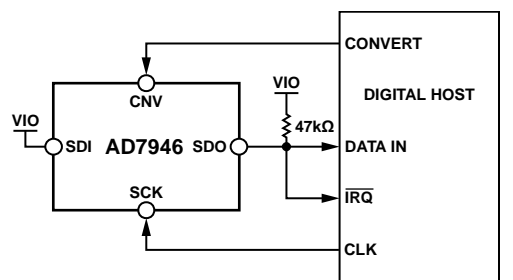
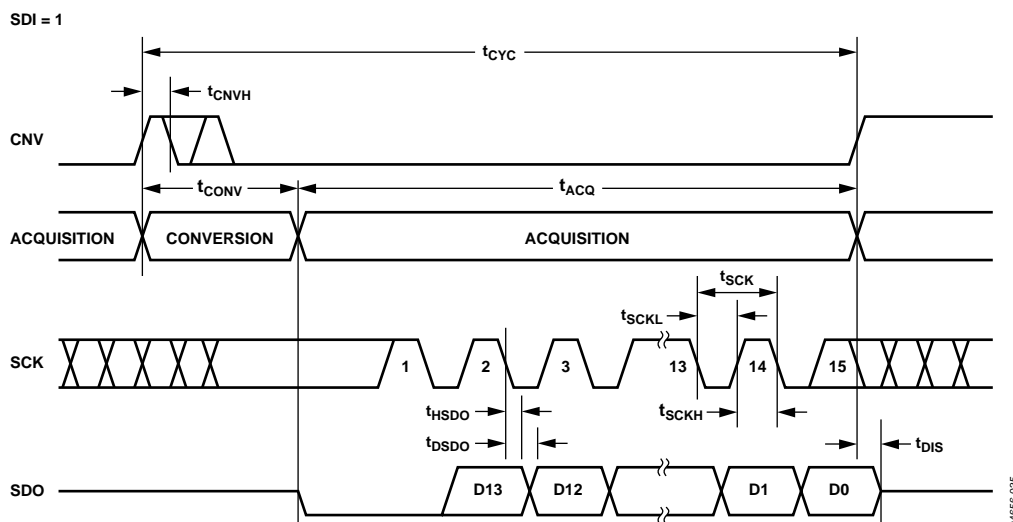
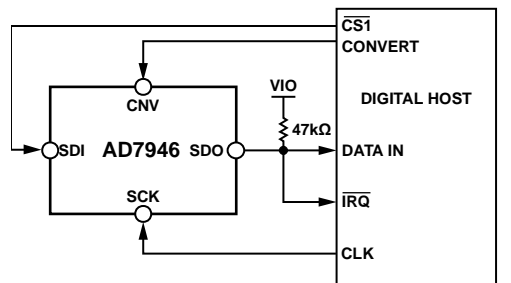
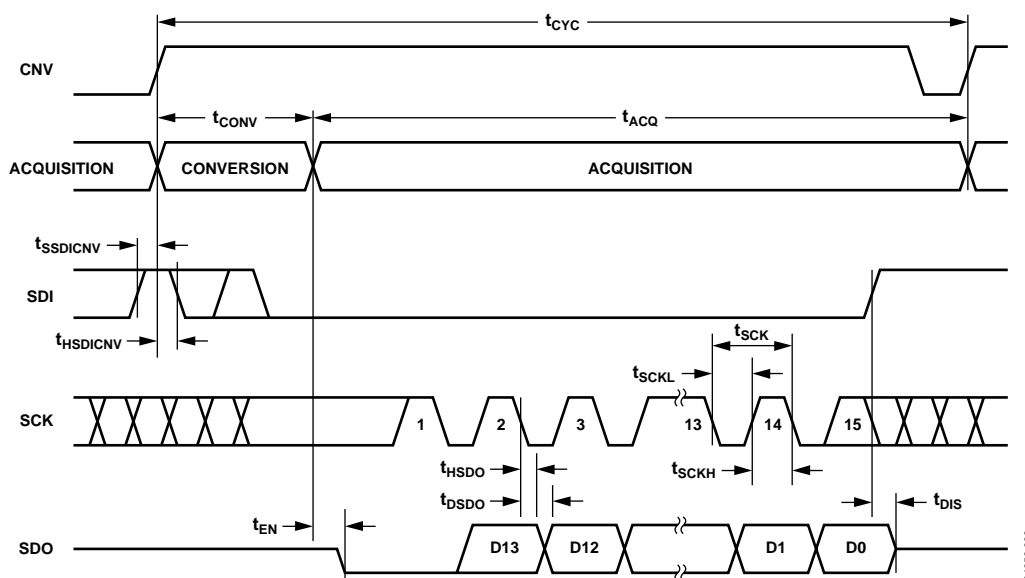

Figure 35. $\overline{\text{CS}}$ Mode 3-Wire with BUSY Indicator Connection Diagram (SDI High)
Figure 36. $\overline{\text{CS}}$ Mode 3-Wire with BUSY Indicator Serial Interface Timing (SDI High)
Figure 39. $\overline{\text{CS}}$ Mode 4-Wire with BUSY Indicator Connection Diagram
Figure 40. $\overline{\text{CS}}$ Mode 4-Wire with BUSY Indicator Serial Interface Timing
- In $\overline{\text{CS}}$ mode, if CNV or SDI is low when the ADC conversion ends (see Figure 36 and Figure 40).
The connection diagram is shown in Figure 35, and the corresponding timing is given in Figure 36.
The connection diagram is shown in Figure 39, and the corresponding timing is given in Figure 40.